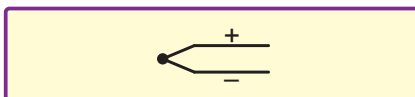

Fig.6. Thermocouple schematic symbol
– it must be amplified significantly without introducing errors. Its symbol is given in Fig.6.